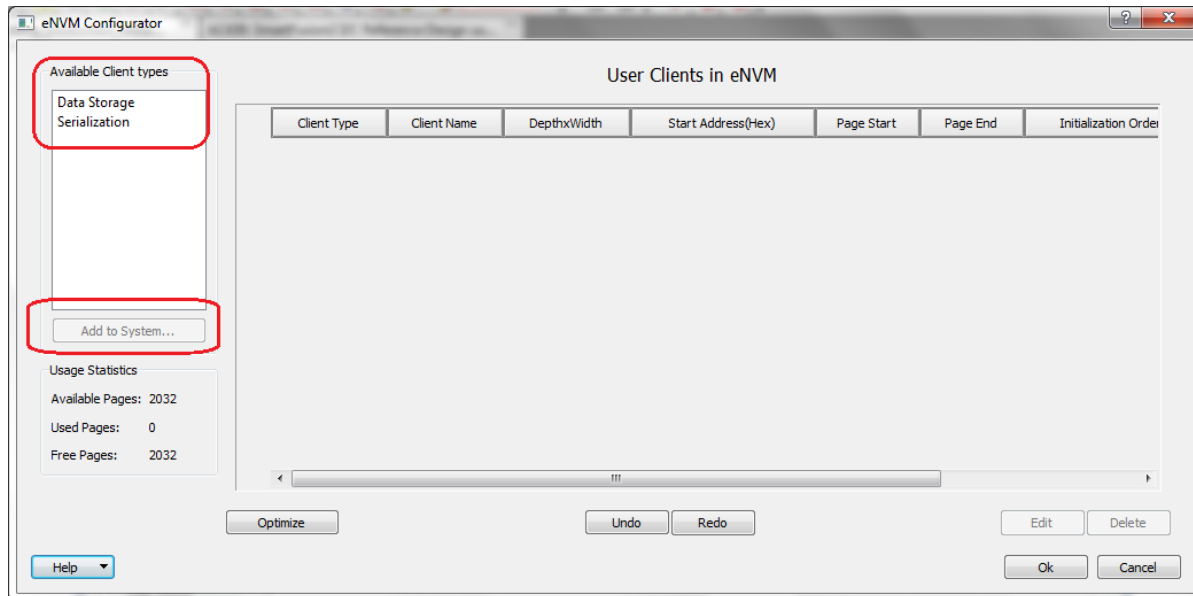
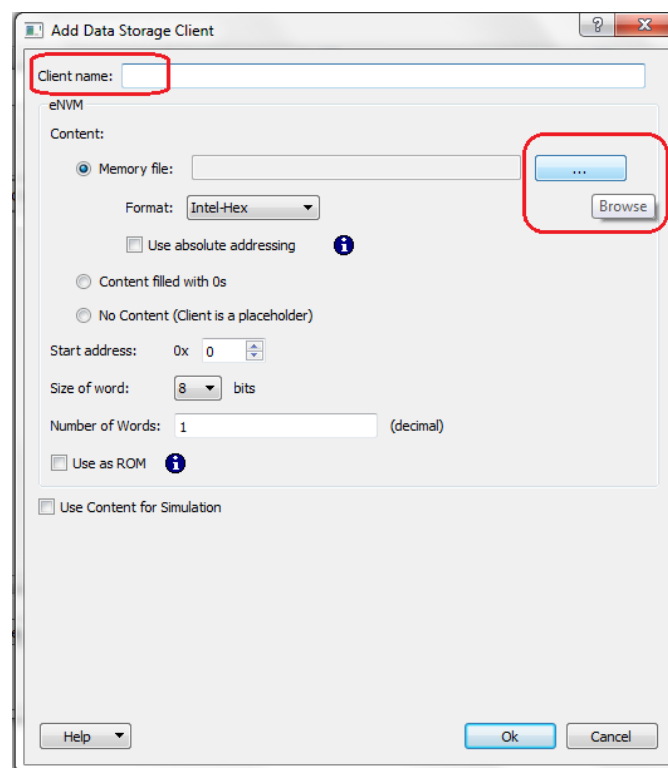

Figure 28 • eNVM Configurator
Figure 29 • Add Data Storage Client Window
- Double-click **eNVM**. The **eNVM Configurator** window is opened as shown in Figure 28.
- Select **Data Storage** under **Available Client Types** tab (see Figure 28) and then click **Add to System**. This opens **Add Data Storage Client** window, as shown in Figure 29.